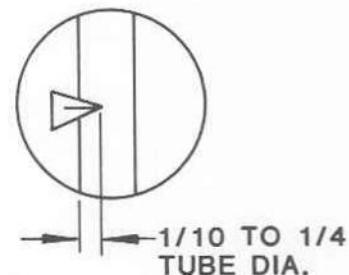

Figure 5.15. Overlap Tolerance of Reticle Arrow.
- 2) Observe the position of the tip of the arrow in relation to the tube. The tip should overlap the tube within the limits shown in Figure 5.15; however the overlap should not exceed $1/4$ the diameter of the tube.
- 3) While moving the tube to the other end, observe the overlap of the arrow tip. The overlap should be within the limits shown in Figure 5.15.
- 4) If overlap is not within the limits shown in Figure 5.15, Request Service for alignment of the reticle arrow and optics.